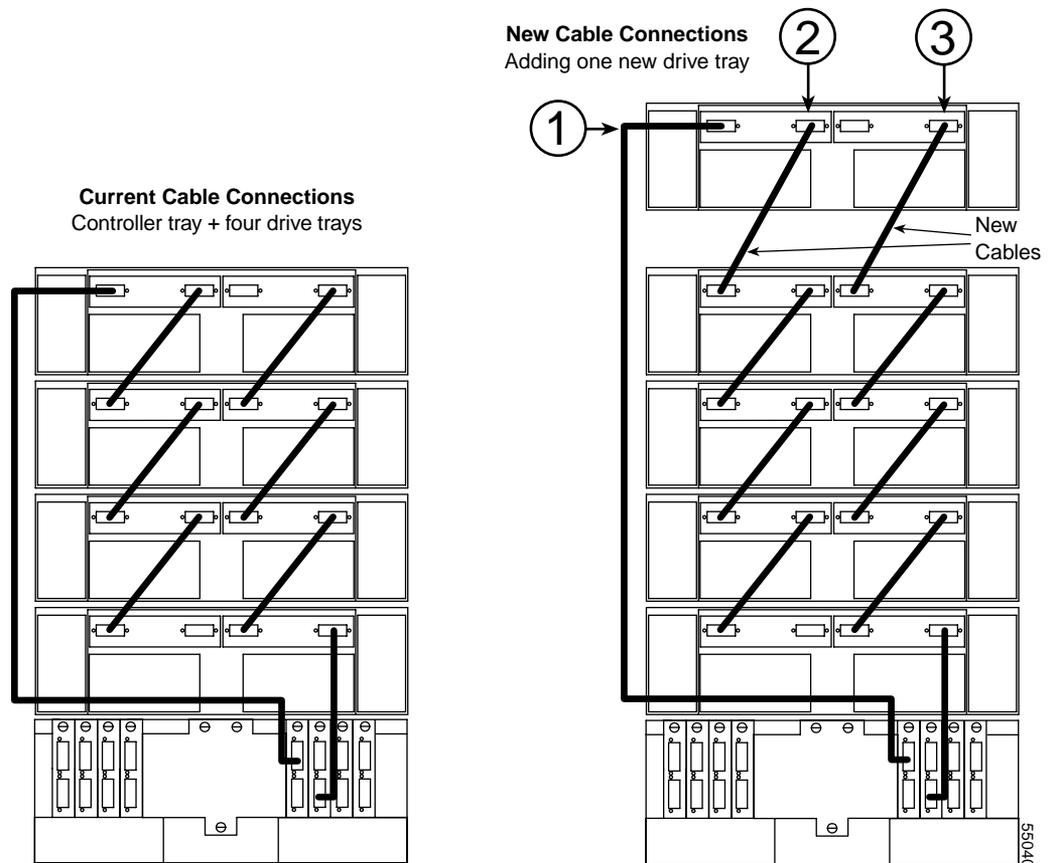

Figure 7-9 Adding A New Drive Enclosure to an Existing Loop
2. Re-cable the drive enclosures as shown in Figure 7-9.
Important: Depending on how long it takes you to complete steps a and b in Figure 7-9, the storage management software (TPSSM7) may report a loss of redundancy error on the drive enclosures in the loop. This error will not interfere with data flow, and will disappear after you complete step b.